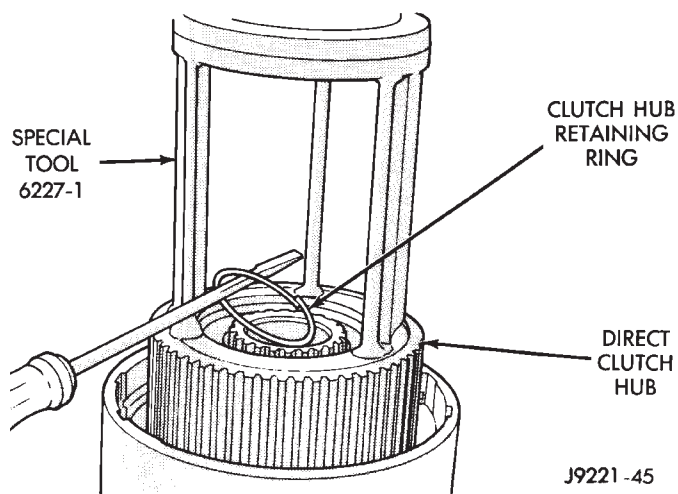

Fig. 23 Removing Direct Clutch Hub Retaining Ring
(12) Remove direct clutch hub retaining ring (Fig. 23).